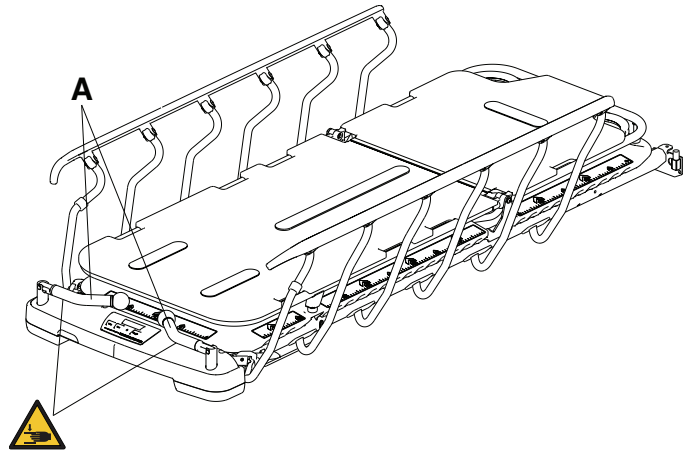

Figure 12 – Stowing the foot end push handles
- Reverse steps to stow the foot end push handles (A) (Figure 12).